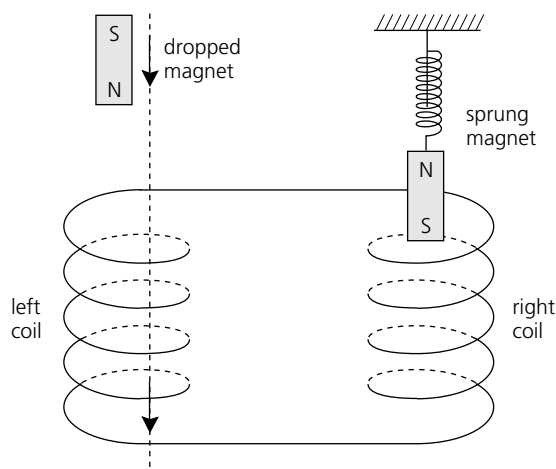

Figure 26.21
- **23** Figure 26.21 illustrates two solenoid coils connected in series. Describe the behaviour of the suspended magnet in the right-hand coil after a bar magnet is dropped through the left-hand coil as shown. Explain your reasoning.